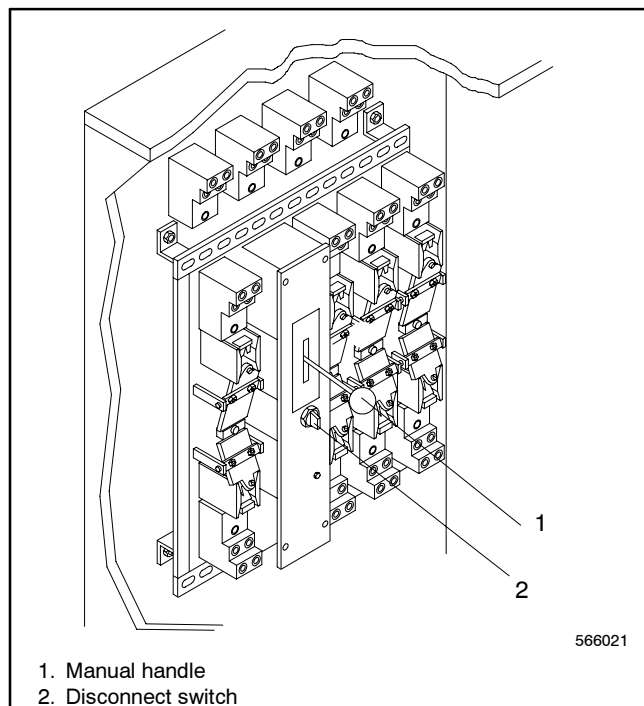

Figure 2-2 ATS Manual Operation
3. Set the disconnect switch (DS) to the DISCONNECT position to prevent the controller from energizing the solenoid(s). See Figure 2-2.